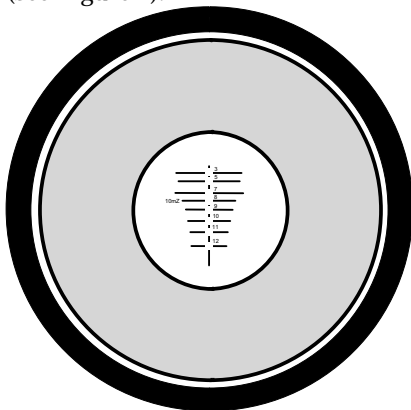

Figure 2. Limited Field of View, Incorrect Eye Relief.
- b. If the target scene does not fill the sight's field of view, the telescope must be repositioned on the rail either forward or backward (see Figure 2).